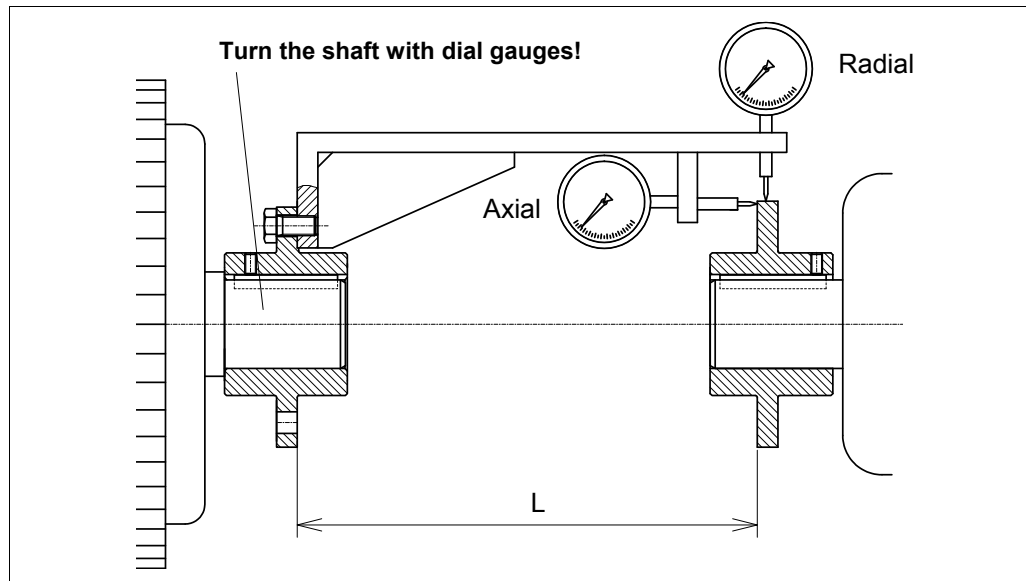

Fig. 15
- **radial runout** in the plane of the output hub flange according to **Fig. 15** (maximum permissible radial deflection of dial gauge!)
- **axial runout** on the biggest diameter of output hub flange according to **Fig. 15** (maximum permissible axial deflection of dial gauge!)